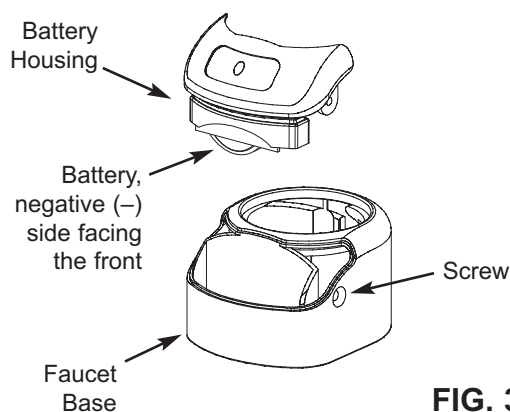

FIG. 32
1. Remove the screw on the right side of the faucet base. See Fig. 32.
2. Press the battery housing upwards from the front faucet base until it releases from the faucet base. See Fig. 32.
5. Re-install the battery housing and firmly tighten the mounting screw. See Fig. 32.